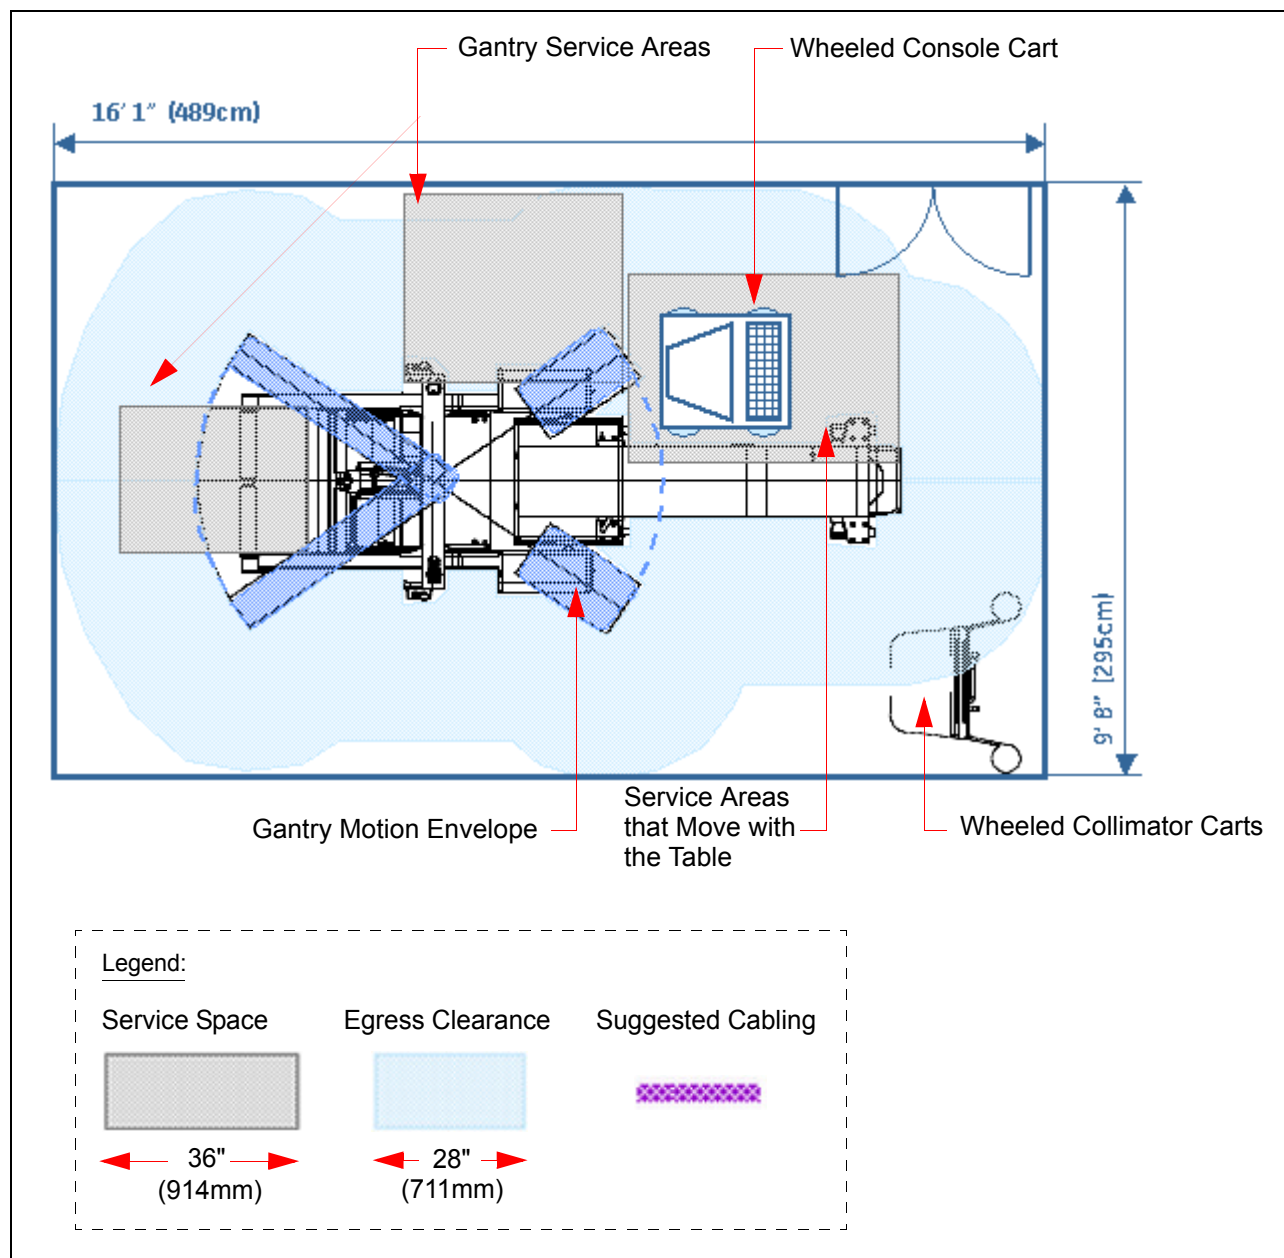

Figure 3-4: MPS (1-axis Table) Typical Room Layout
Figure 3-4 shows a typical (standard) room layout drawing showing location of all basic units for a Millennium MPS (1-axis) system. Observe that requirements for clinical access, and for peripheral clinical equipment placement, such as storage cabinets, sinks, etc., must be taken into considerations during the room layout.
- All gantry service done on either side as shown in Figure 3-4.
- Table movable for service access, as shown in Figure 3-4.